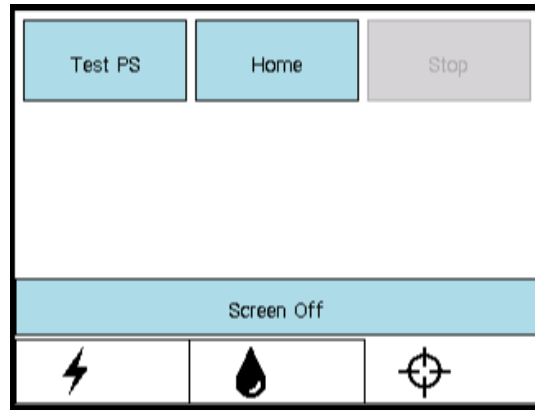

Figure 15: PSIB display - PS tab
- On the PSIB display, select the PS tab and click **Test PS** (Figure 15). The system will translate the PS forward and backward to test the continuity and functionality of the translation axis as well as home the PS in the translation axis. The system will also rotate the rotational axis clockwise and counter-clockwise to test the continuity and functionality of the rotational axis. (This can also be done from the TDC Setup workspace in the PS information box in the bottom-right quadrant Figure 16.)